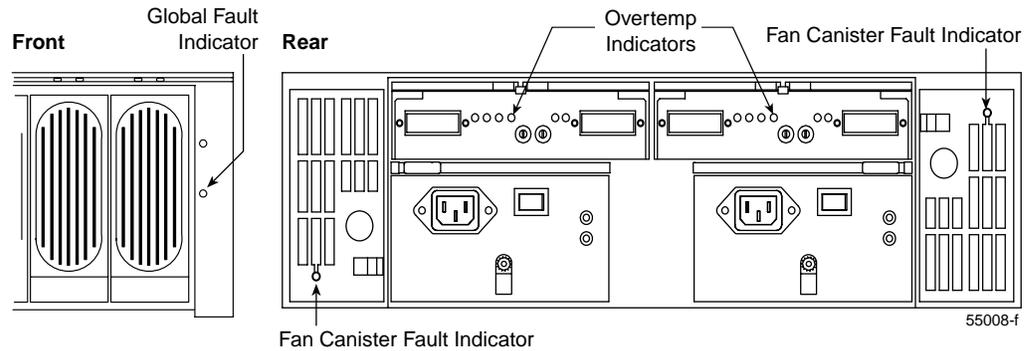

Figure 7-3 Fault Lights for Fan Canister Replacement
12. Check the Fault indicators shown in Figure 7-3.
- If any of the other Fault indicators shown in Figure 7-3 are on, refer to the storage management software (TPSSM7) for problem determination.